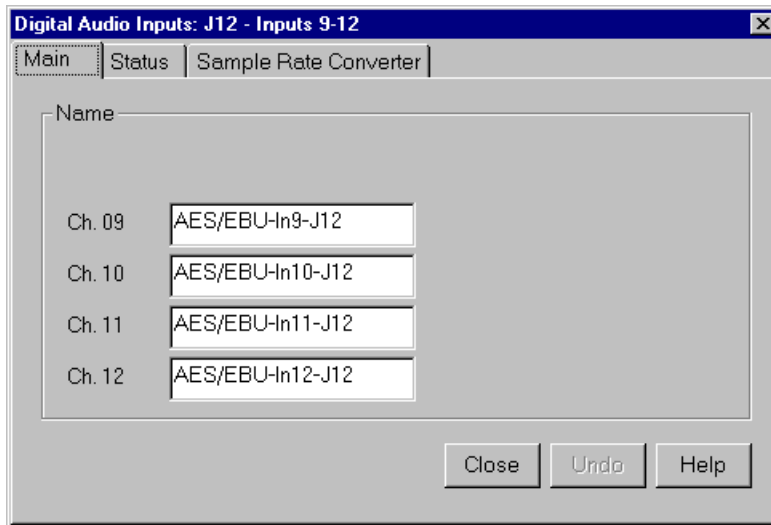

Figure 33. Digital Audio Input dialog box, Main tab
1. Expand Audio Input, and then click one of the Digital Channels to bring up the Digital Audio Input dialog box (Figure 33). The channel numbers on the left refer to the physical input connectors on the audio input box. **Ch. 01** and **Ch. 02** refer to the channel pair on the first connector, and **Ch. 03** and **Ch. 04** refer to the pair on the second connector, and so forth.